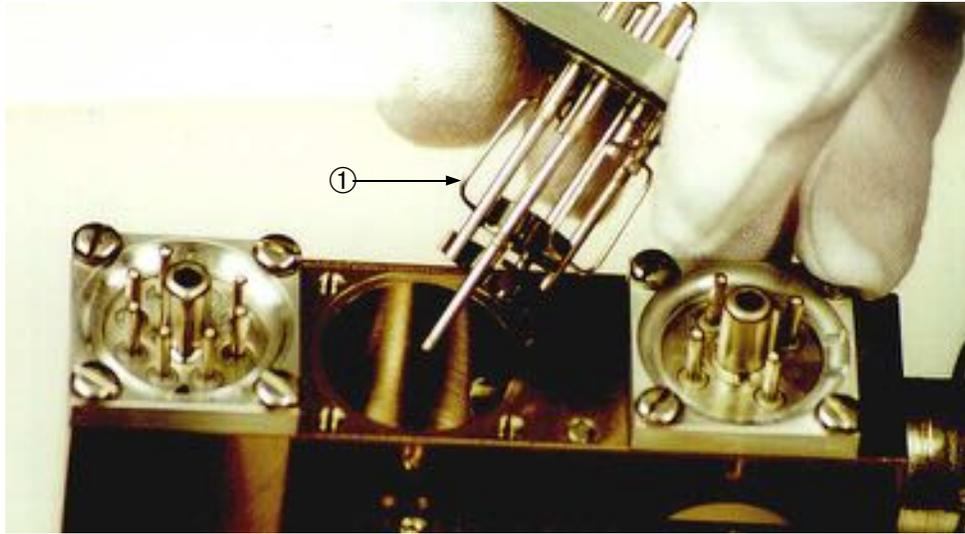

Figure 5-9 Removing the Ion Source
2. Remove the ion source ① from the spectrometer tube body (Figure 5-9).
7. Gently slide the ion source out of the spectrometer tube body (Figure 5-9 on page 5-11).